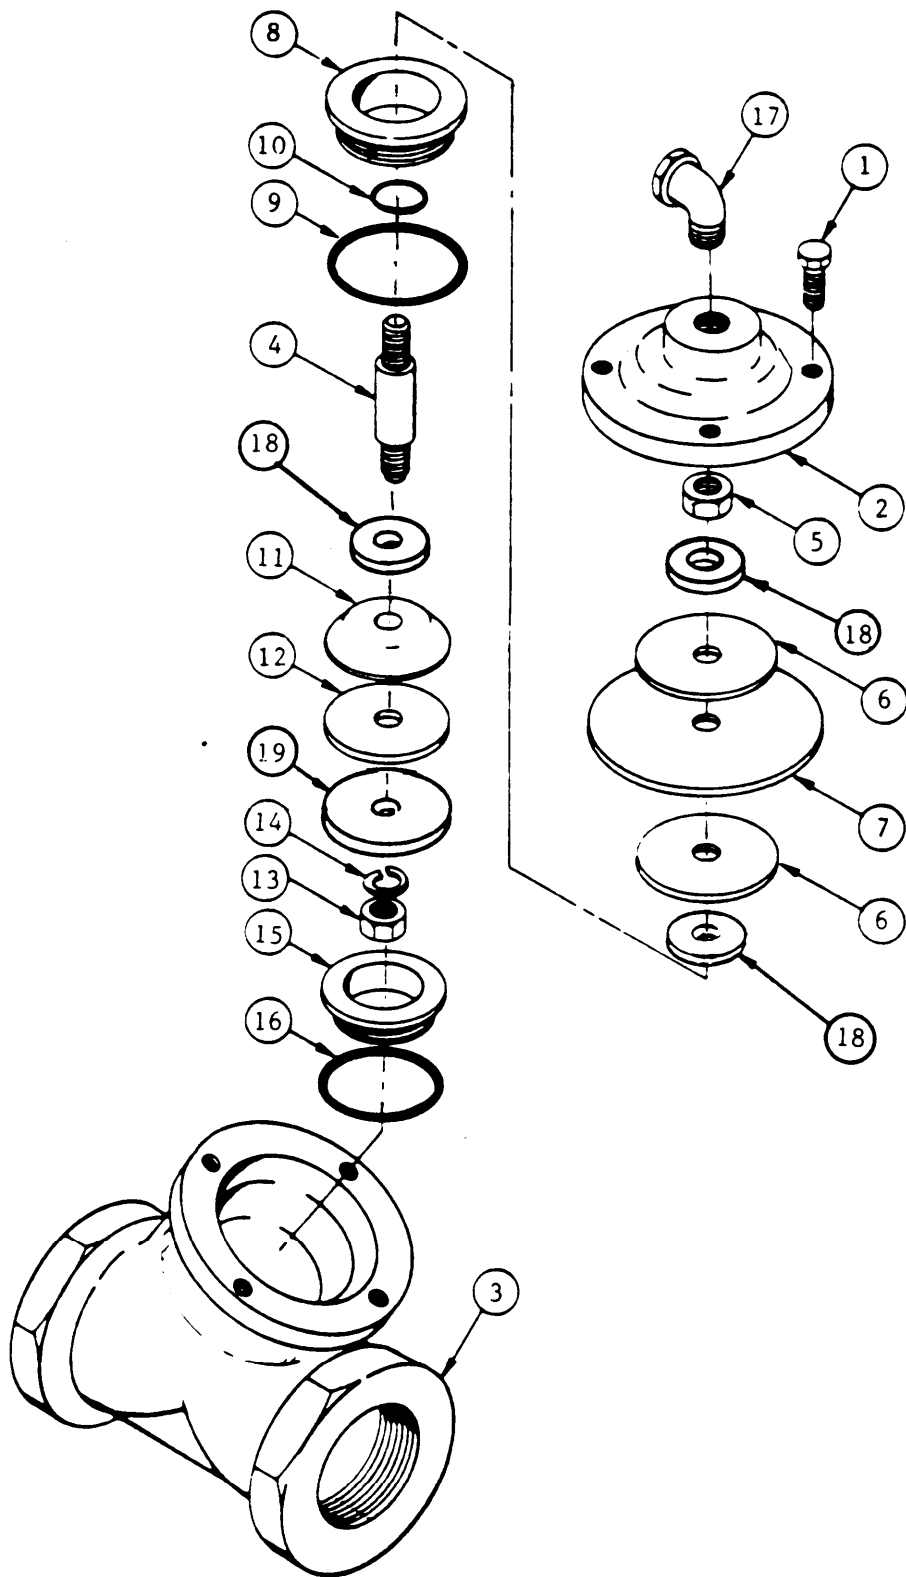
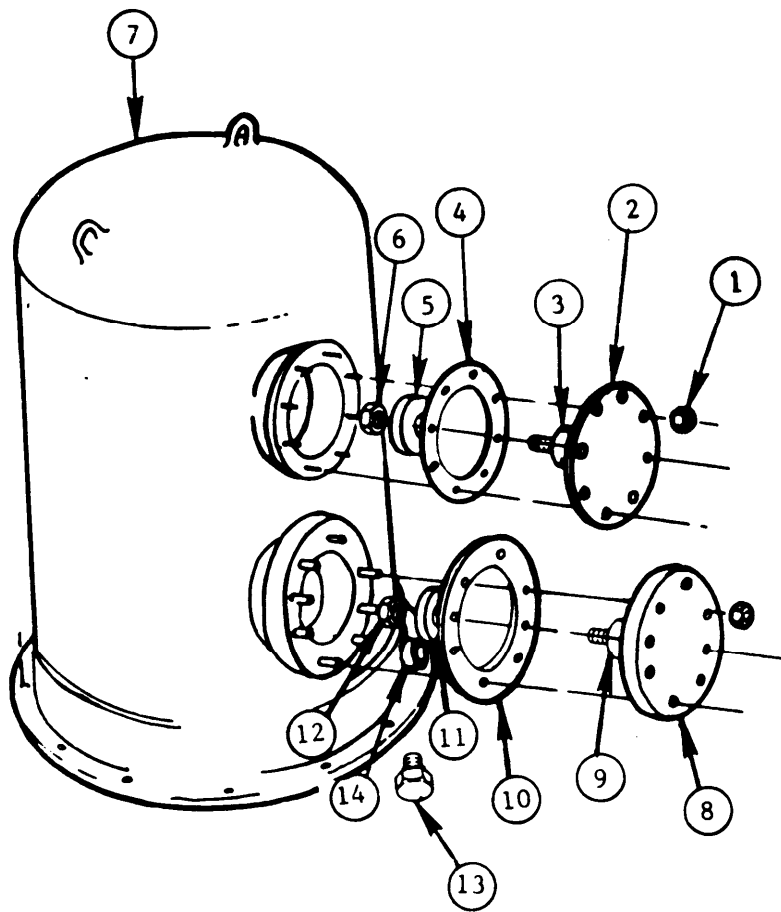
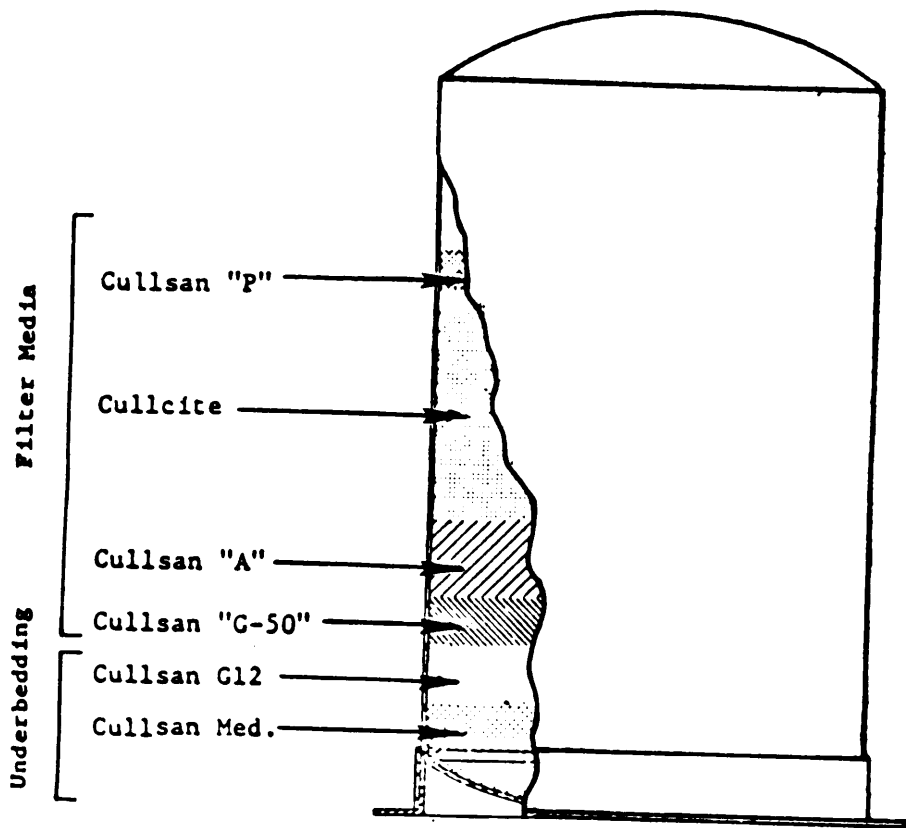

Figure 3-42. Multimedia Filter Diaphragm Valve
Figure 3-43. Multimedia Filter Assembly Hand-Hole Cover
Figure 3-45. Multimedia Filter Underbedding and Media
(5) Lift out seat (6) and seat gasket (7) from valve body (3). Discard seat gasket (7).
(6) Unscrew and remove all parts to cap assembly (8) and O-ring (11) from valve body (3). Discard O-ring (11).
(7) Unscrew and remove pipe plug (9) and O-ring (10) from valve body (3). Discard O-ring (10).
g. Disassembly, Multimedia Filter Diaphragm Valve. (Figure 3-42)
(1) Remove four screws (1) from cap (2) and valve body (3).
(2) Remove cap (2) from body (3).
(3) Using a screwdriver to hold the shaft (4), remove nut (5) from shaft (4).
(4) Remove gasket (18) from shaft (4) and discard gasket (18).
(5) Remove upper and lower plate and diaphragm (7) from shaft (4). Discard diaphragm (7).
(6) Remove the other gasket (18) from shaft (4) and discard gasket (18).
(7) Remove O-ring retainer (8) and large O-ring (9) from shaft (4) and body (3). Discard O-ring (9).
(8) Remove small O-ring (10) from inside bore of O-ring retainer (8). Discard O-ring (10).
(9) Lift out shaft (4), with gasket (18), disc retainer (11), disc (12), disc plate (19), lockwasher (14), and nut (13) attached, from valve body (3).
(10) Using a screwdriver to hold the shaft (4), remove nut (13) and lockwasher (14) from shaft (4).
(11) Remove disc plate (19), disc (12), disc retainer (11), and gasket (18) from shaft. Discard gasket (18).
(12) Remove large O-ring (16) and lower seat (15) from valve body (3). Discard O-ring (16).
(13) Remove elbow (17) from cap (2).
h. Removal, Multimedia Filter Hand-Hole Cover, Underbedding And Media. (Figure 3-43)
(1) Remove eight nuts (1), top hand-hole cover (2), and gasket (4) from multimedia filter tank (7). Discard gasket (4).
(2) Remove nut (6) and zinc anode (5) from mounting stud (3) of hand-hole cover (2).
- (9) Install elbow (14) on vent pipe assembly (7), nipple (13) in elbow (14), and strainer (12) on nipple (13).
- (10) Install union (8) to vent pipe assembly (7).
- (11) Screw union (8) to nipple (9).
- (12) Install nipple (15) and inlet pipe assembly (6) in elbow (16) .
- (13) Install inlet pipe assembly (6) in coupling (11).
- (14) Attach two clamps (4) and (5) to inlet pipe assembly nipple (15) and vent pipe assembly nipple (13).
- (15) Secure clamps (4) and (5) with three screws (2), washers (3), and nuts (1).
- n. Install Multimedia Filter Underbedding and Media. (Figures 3-43 and 3-45)
- (1) Install plug (13) (figure 3-43) in drain port (14).
- (5) Through the top hand-hole, install filter media in the following sequence (figure 3-45):